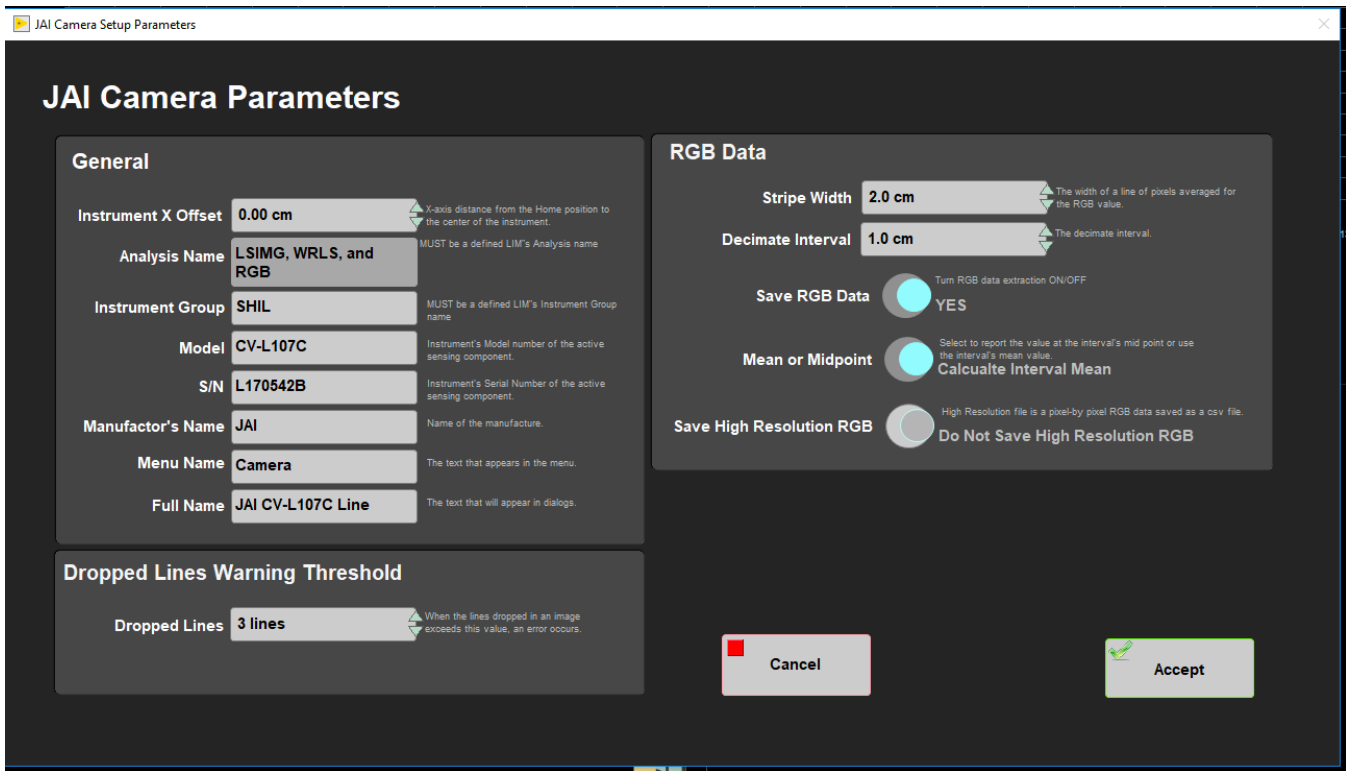

Figure 2. General Camera Setup window
- Instruments > Camera: General Setup (Figure 2)